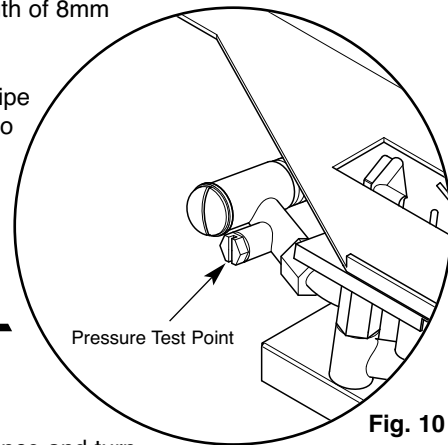

Fig. 10
2. Unscrew the pressure test point sealing screw (Fig. 10) and fit a manometer. Consult the user instructions (page 16). Ignite the appliance and turn to the high position.